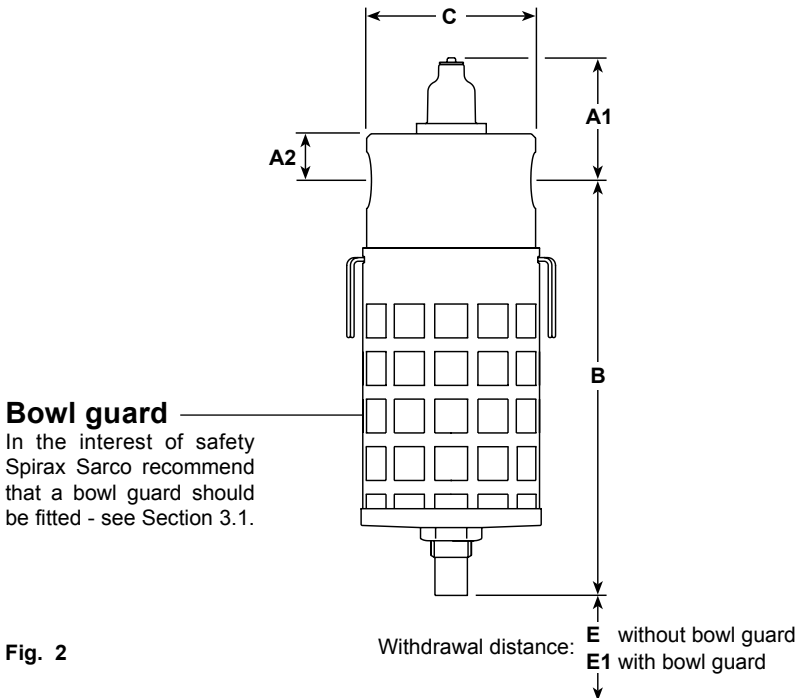

Fig. 2
- 3.3.2 Adequate space should be provided around the unit to allow easy access for routine servicing requirements (see Figure 2 for withdrawal distances).